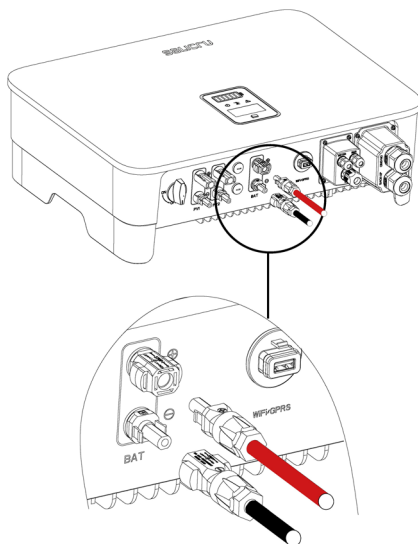

Fig. 34. Connecting the battery.
6. Insert the positive and negative connectors into the respective inverter battery terminals. A "click" will ensure correct assembly, as shown in Fig. 34.